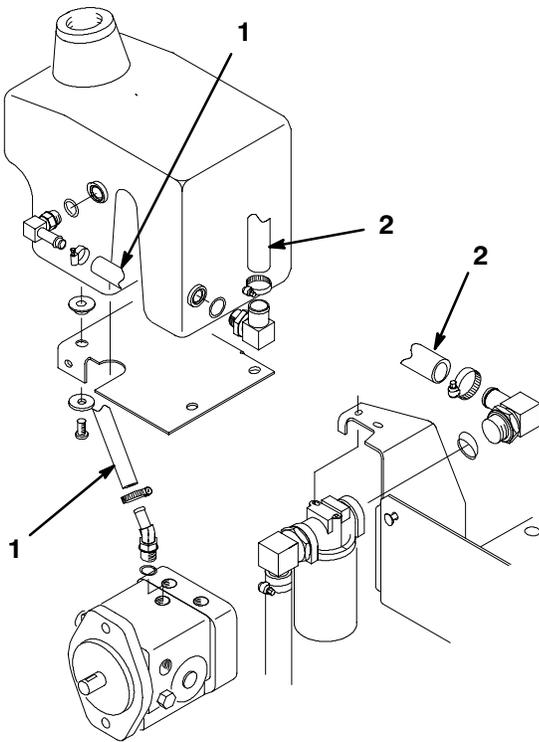

Figure 10
5. Cut the 1/2" diameter hose to 16 inches. Connect the hose from the hydraulic pump to the front of the hydraulic tank (Fig. 10).
6. Cut the 3/4" diameter hose to 13-3/4 inches. Connect the hose from the hydraulic filter to the side of the hydraulic tank (Fig. 10).